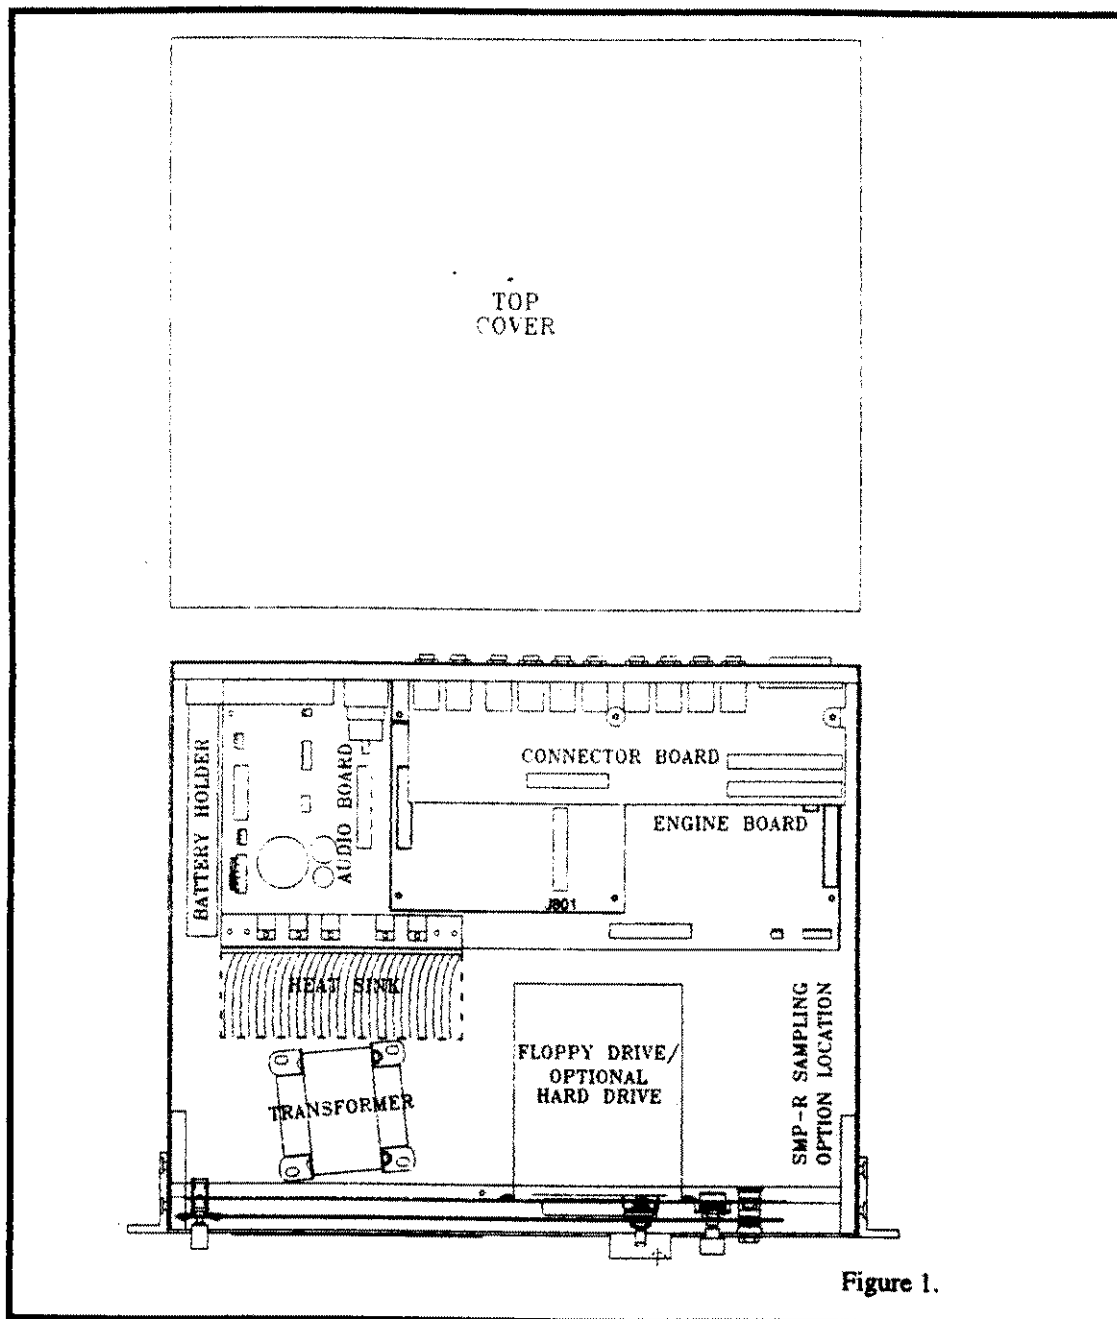

Figure 1.
3. See Figure 1. Lift the cover from the back, slide it off and place it aside. Notice that there is a groove on the top edge of the front panel that the top cover fits snugly into.